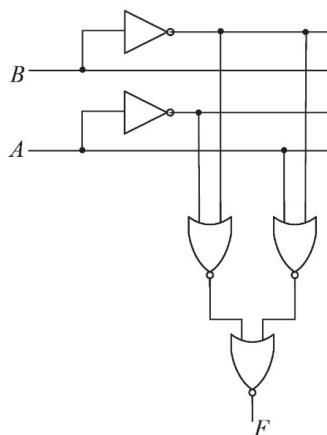

Fig. 3.16
31. The logic block shown in Fig. 3.16 has an output  $F$  given by \_\_\_\_\_. (GATE IN 2021)